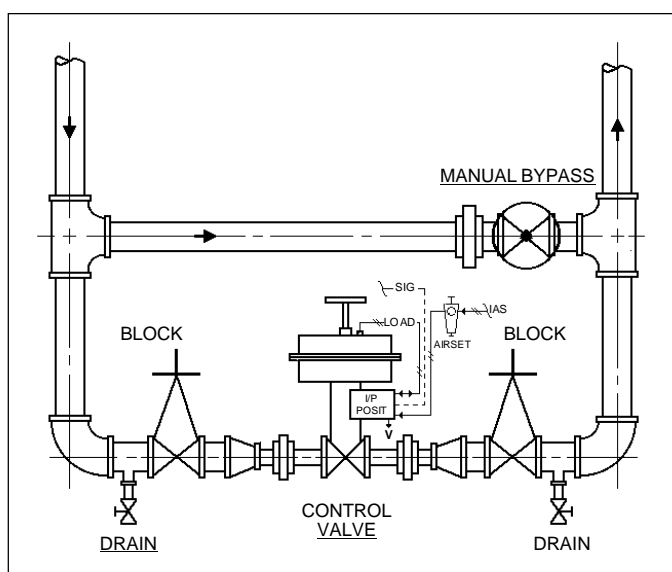

Figure 1: Typical Control Valve Station
1. It is recommended that the control valve unit be installed with a double-block and bypass as indicated in Figure 1. This arrangement is recommended especially where maintenance will be done on the valve body while still installed in the pipeline.
4. For flangeless installation, body (1) must be machined with serrations on each end of body.